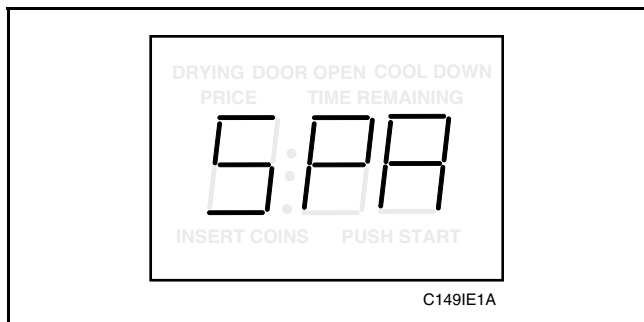

Figure 17
3. Press the LOW TEMP (+) pad or the NO HEAT (-) pad to scroll through the programmable options until “SPA” appears in the VFD, *Figure 17*.